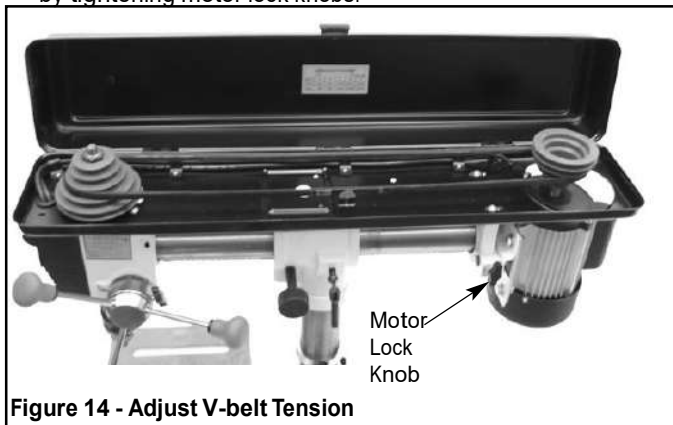
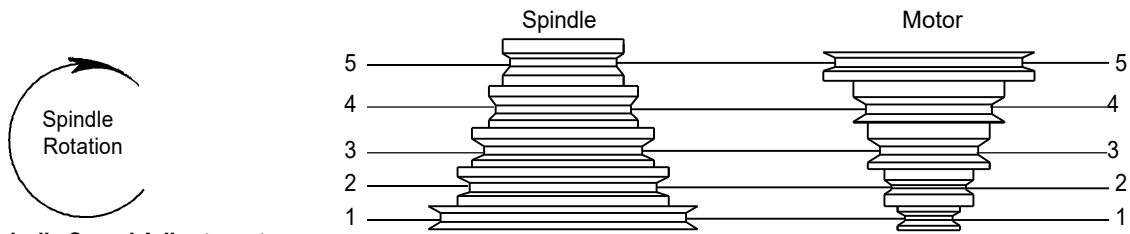

Figure 14 - Adjust V-belt Tension
Figure 20 – Spindle Speed Adjustment
Refer to Figure 14, page 7.
Refer to Figures 14 and 20.
- To change spindle speed, loosen motor lock knob (see Figure 14), and push the motor toward front of drill press. This will loosen the belt and permit relocating the belt to the desired pulley groove for the required spindle speed (See Figure 20, page 9).